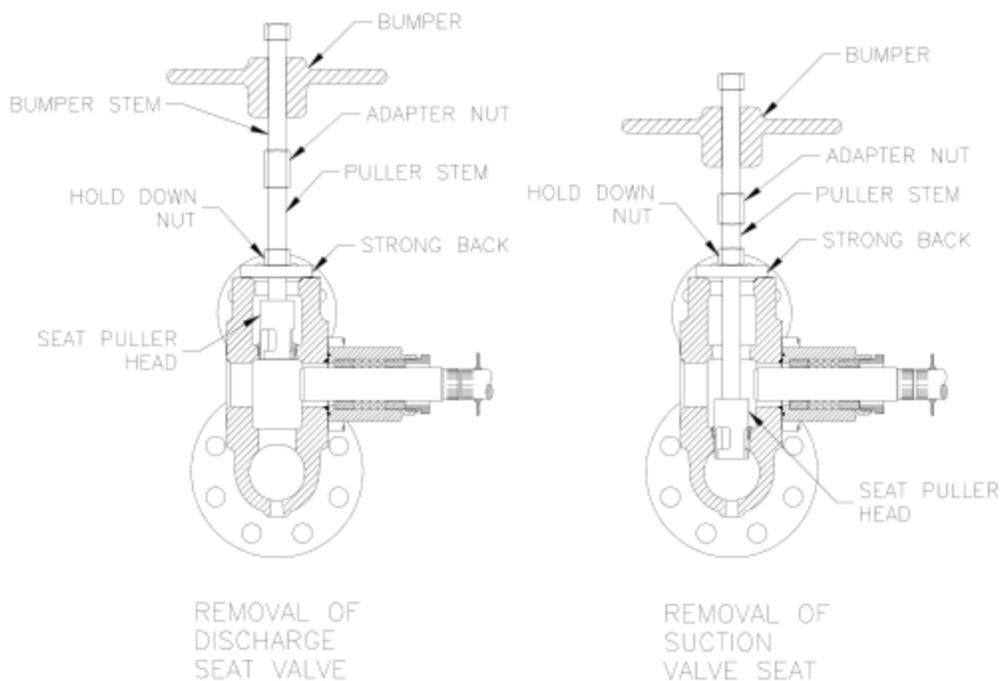

Figure 9
- g. Use the special valve puller and remove the valve seat. See Figure 9.